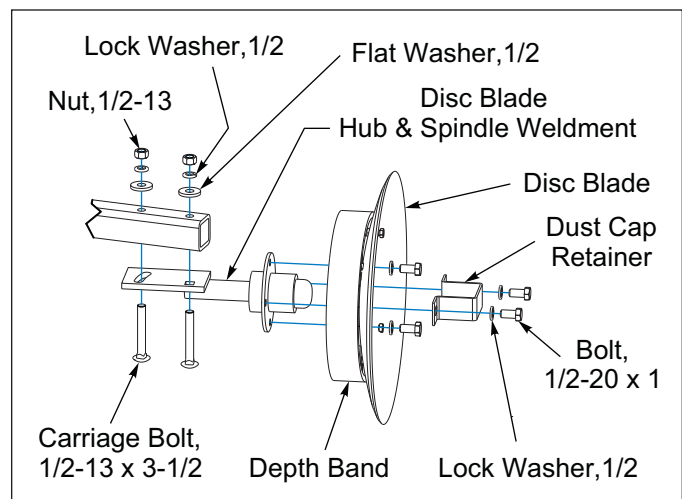

Figure 3-19: Row Marker Disc Blade Assembly
1. To change the direction of the Row Marker Disc Blade, remove the four 1/2-20 x 1 Bolts and Lock Washers that attach the Disc Blade and Dust Cap Retainer to the Disc Blade Hub and Spindle Weldment. Set the Disc Blade with the Depth Band a side. The Depth Band does not move. **See Figure 3-19.**